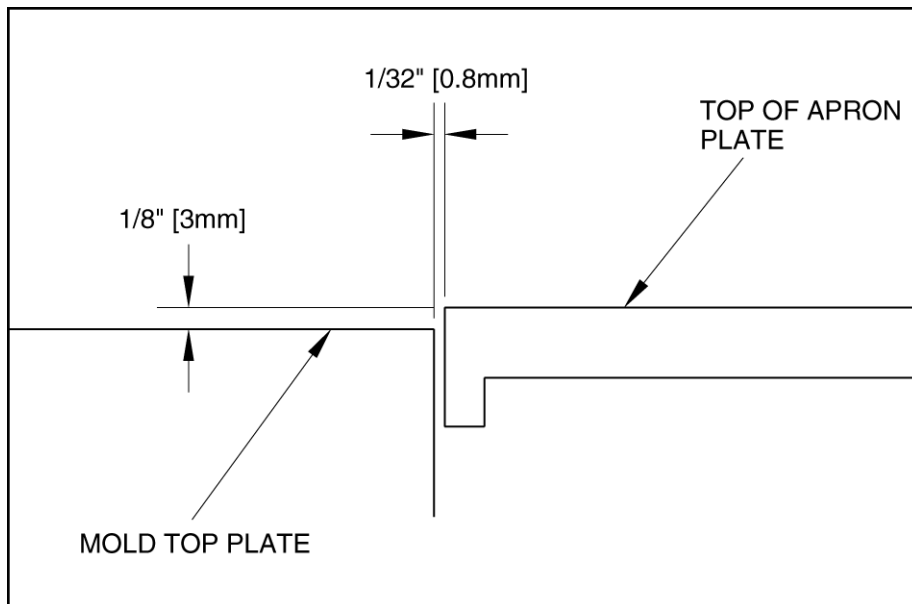

Figure 5.25 APRON PLATE CLEARANCE
- 5.6.1 Adjust so the apron plate is 1/8" [3mm] above the mold top plate (figure 5.25) with the machine at "first stop".